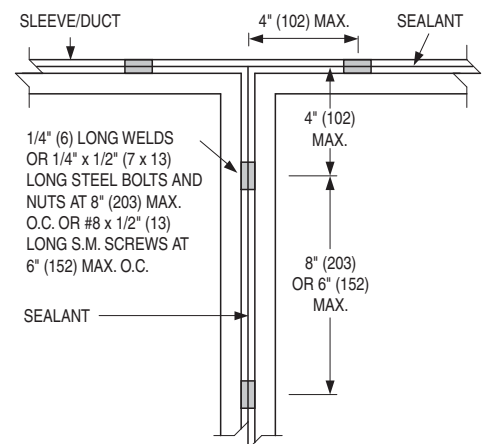

FIGURE 1: JOINT DETAILS FOR LEG OUT FRAME
2. In multiple assemblies of vertical or horizontal dampers, the frames shall be joined together on both sides of the damper using 1/4" (6) long welds, 1/4" (6) dia. bolts and nuts or #8 sheet metal screws. Center distances are as noted in the joint details (Figure 1) shown below.